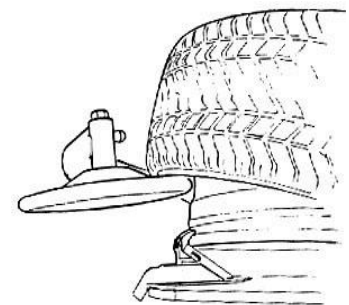

Fig 18
- a- Position the tire lifting roller and lift the bottom bead until it is in the drop center; (Fig 18)